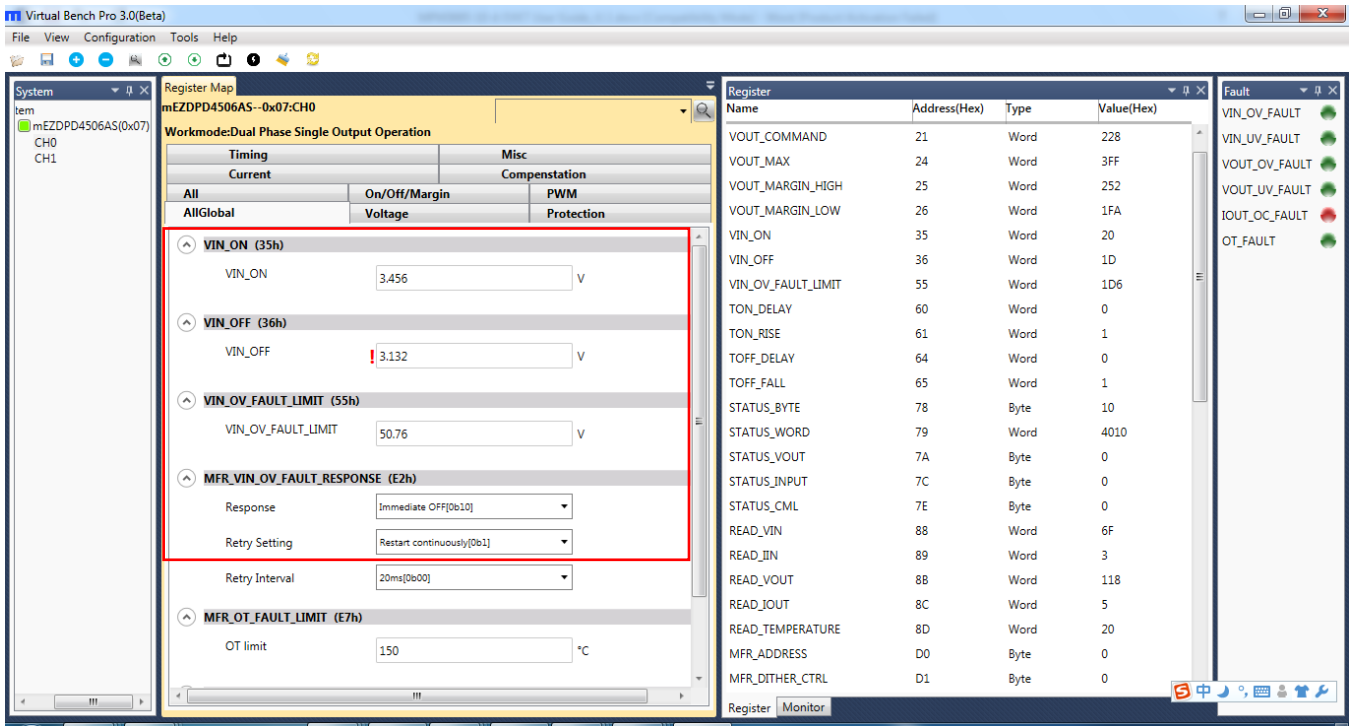

Figure 7: Values Displayed in the Register of the Module
2. **Figure 6: Green Indicator Shows Successful Connection** The Register Control menu will appear in the middle panel. The values stored in the registers of the module are read automatically (see Figure 7).